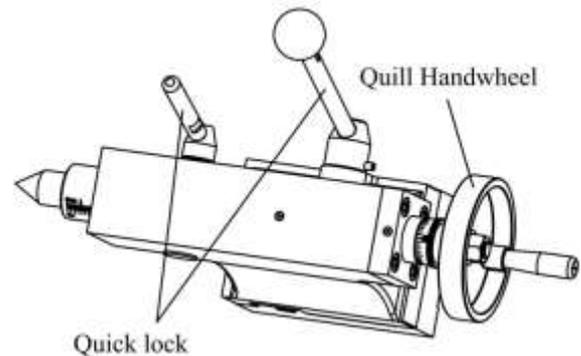

Figure 10. Tailstock components.
1. Familiarize yourself with the tailstock components shown in **Figure 10**.